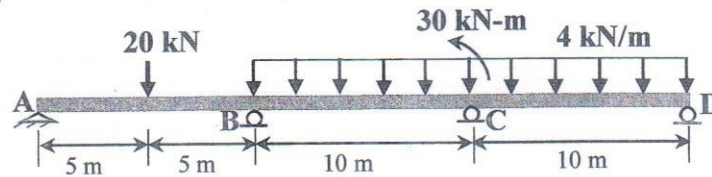

Fig. 1
- 1 Using moment distribution method determine all the reactions at supports for the (25) beam shown in Fig.1. Also draw the shear force and bending moment diagrams.  $EI$  is constant.